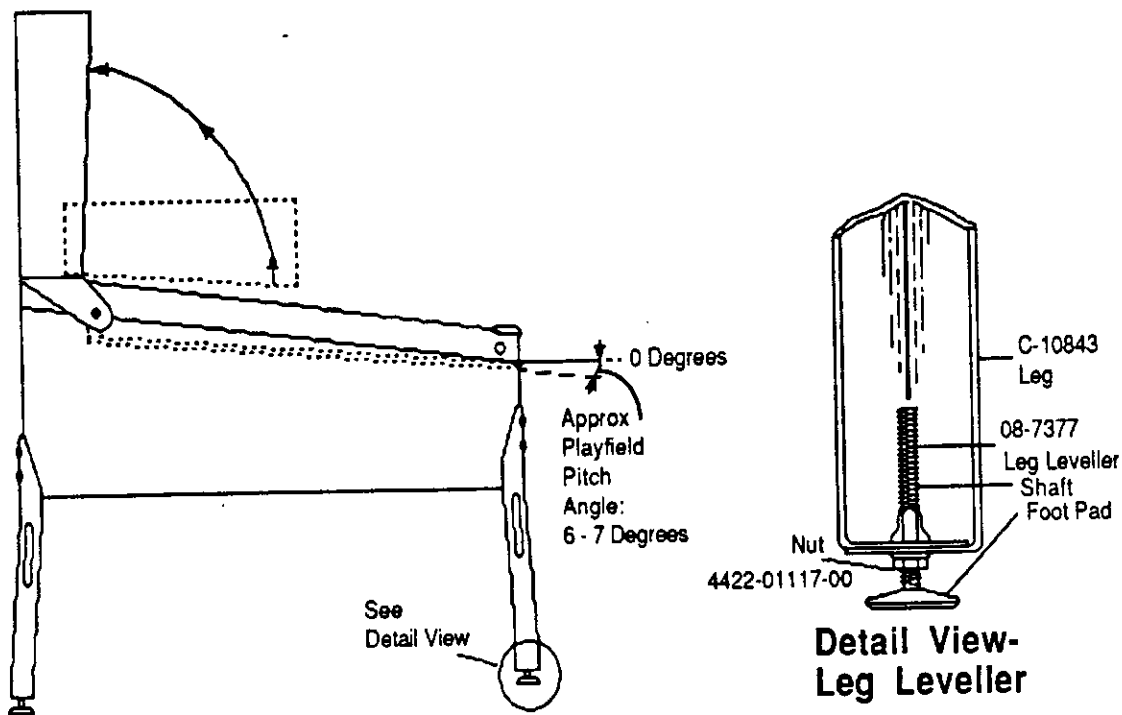

Figure 3. Pinball Assembly, Playfield Pitch Angle, and Leg Leveler Details.
3. Attach the front legs (after installing leg levellers), using leg bolts. See Figure 3 for details.
6. Adjust the leg levellers for proper playfield level (side-to-side) *and* playfield pitch angle (incline) of approximately 6 degrees. (Again, it is recommended that these measurements be made **ON** the playfield, not the cabinet nor the playfield cover glass.) Tighten the nut on each leg leveler shaft to maintain this setting, as shown in Figure 3.